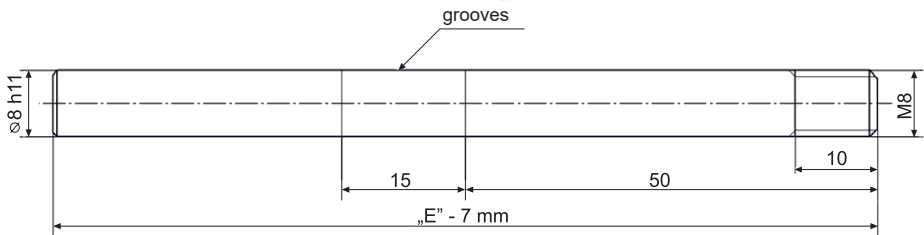

Fig. 23: Detail of a drawing of a rod electrode
1. Create your own electrode as shown on Fig. 23 or 24 The length of the electrode must be about 7 mm shorter than the dimension "E" in figure 23. The material of the electrode is recommended to be used stainless steel type 1.4404 (AISI 316 L) or similar depending on the application.
2. Shorten the rod electrode by means of a suitable metal saw and file the end of the electrode. The length of this electrode must be 7 mm shorter than dimension "E" in pic. 31. At the rope electrode, it is necessary to loosen three fastening screws on the ballast and to pull out the end of the cable, see fig. 23. Make sure that the cable length is correct after shortening – the cable is suspended in the ballast up to a distance of approximately 60 mm. Ideally, shorten the cable using diagonal cutting pliers. Be careful to prevent the end of the cable from fraying.